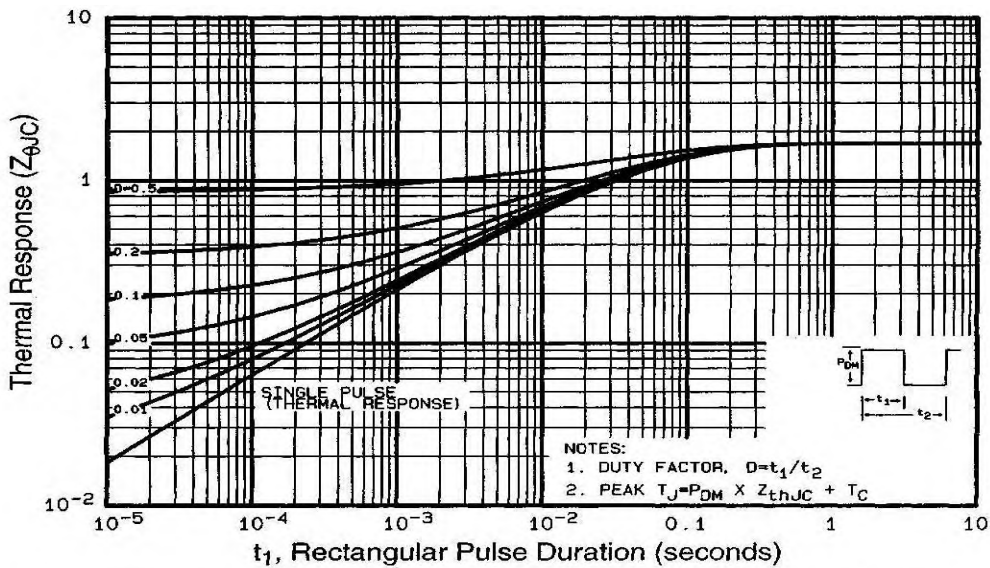

Fig 11. Maximum Effective Transient Thermal Impedance, Junction-to-Case
① Repetitive rating; pulse width limited by max. junction temperature (See Figure 11)
③ $I_{SD} \leq -12A, di/dt \leq 140A/\mu s, V_{DD} \leq V_{(BR)DSS}, T_J \leq 175^\circ\text{C}$